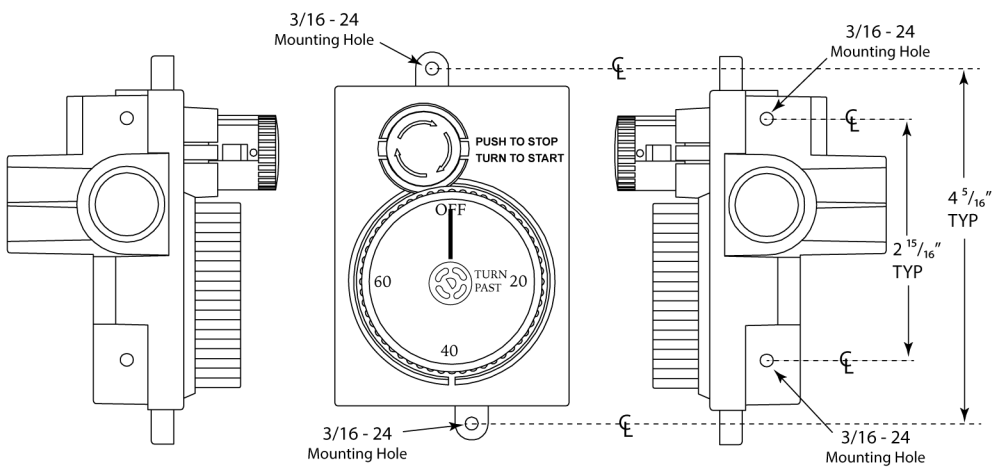

Fig. 3 E-Stop mounting hole locations
The E-Stop has the ability to mount it from the side of the body using four (4) screws or using the tabs at the top and bottom of the body using two (2) screws. It requires 3/16 - 24 screws to secure it into position. See Fig. 3.